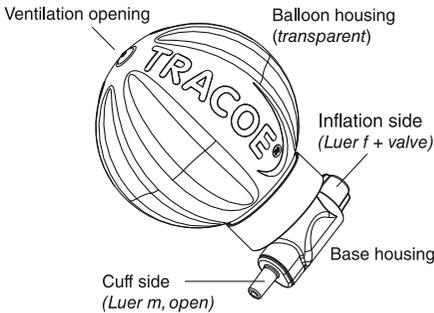

Fig. 1: Components and connectors of the TRACOE smart Cuff Manager
The TRACOE smart Cuff Manager includes a spherical, hard shell (transparent) outer casing with an elastic inner balloon (blue), which is attached to a base housing with both a male and female luer connector (figure 1). This device is designed to ensure that the endotracheal/tracheostomy tube cuff pressure remains within the range of 20 cmH₂O to 30 cmH₂O while in clinical use. This range is achieved through passive control, with the inner balloon (blue) of the device acting as a pressure reservoir allowing the flow of air between the balloon and the endotracheal/tracheostomy cuff to maintain the pressure range.
CAUTION: The damping function of the inner balloon is only effective in one direction to allow inflation or monitoring of the endotracheal/tracheostomy cuff pressure and therefore, it is not active when a cuff pressure monitor or syringe is inserted in the luer -connector (on the inflation side of the device (figure 1).
The elastic inner balloon (blue) is located inside a spherical hard shell (transparent) outer casing. This inner balloon is connected to the base housing (white), which has two luer-connectors (figure 1):
This female luer connector has an incorporated self-sealing valve which prevents air flow upon removal of a syringe or pressure measuring unit, see figure 1.
- Prevent fluids from entering the TRACOE smart Cuff Manager ventilation opening (top of the outer casing, figure 1); e.g. do not bath or shower with the device attached.